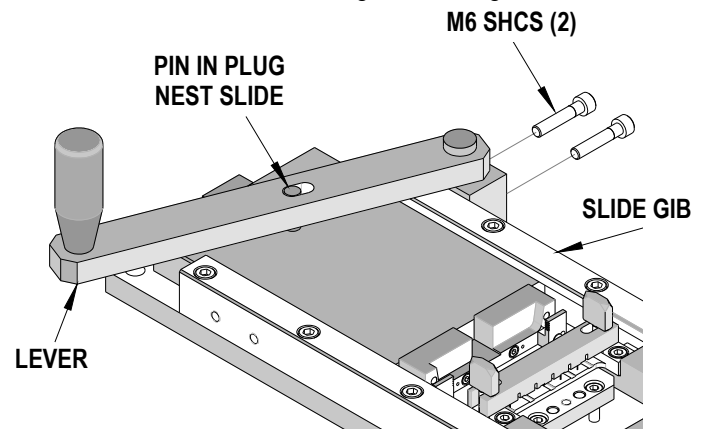

Figure 2-2B
4. Tighten the two M6 SHCS. See Figure 2.2B.